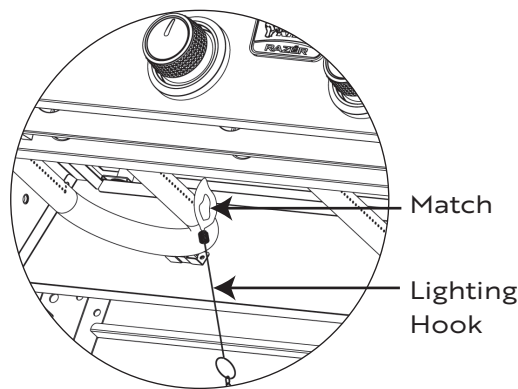

Figure 4
8. If the igniter does not light the burner, use a lit match secured with the Lighting Hook (included with the griddle) to light burners. Access the burners from under the griddle. Position lit match near side of burner (Figures 4 and 5).